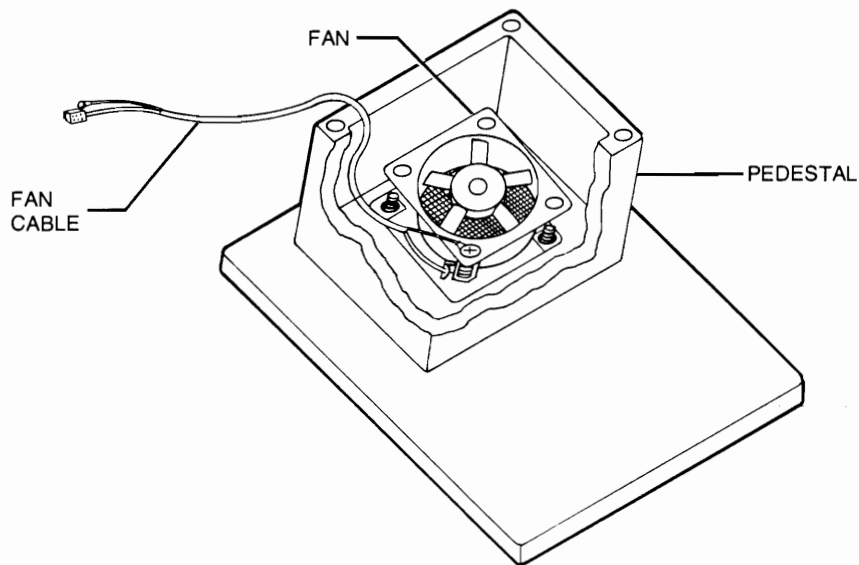

Figure 7-5. Fan Removal
4. Remove the two screws and washers securing fan to the pedestal cavity (figure 7-5) and remove the fan.